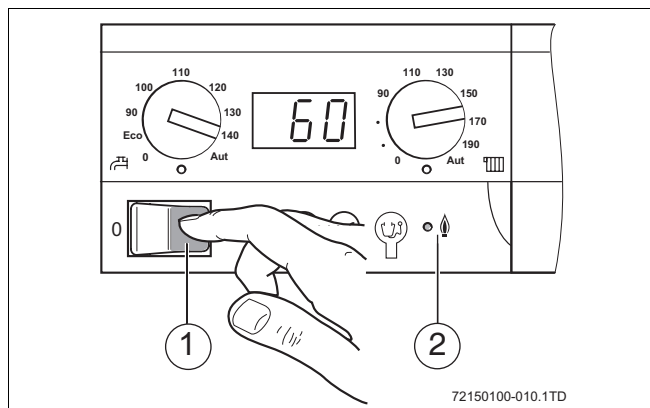

Fig. 11 Mains switch
- ▶ Switch on the heating system using the main switch (→ fig. 11).